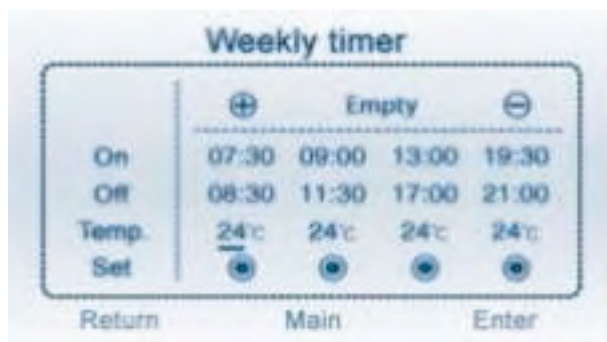
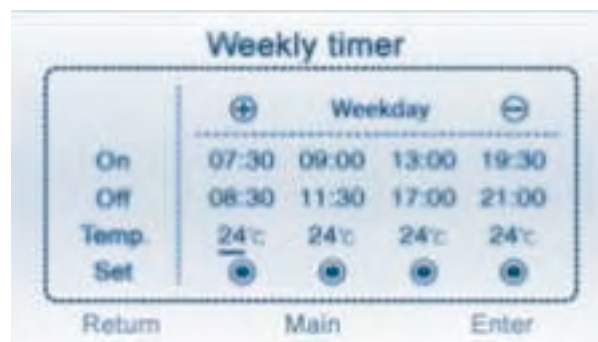
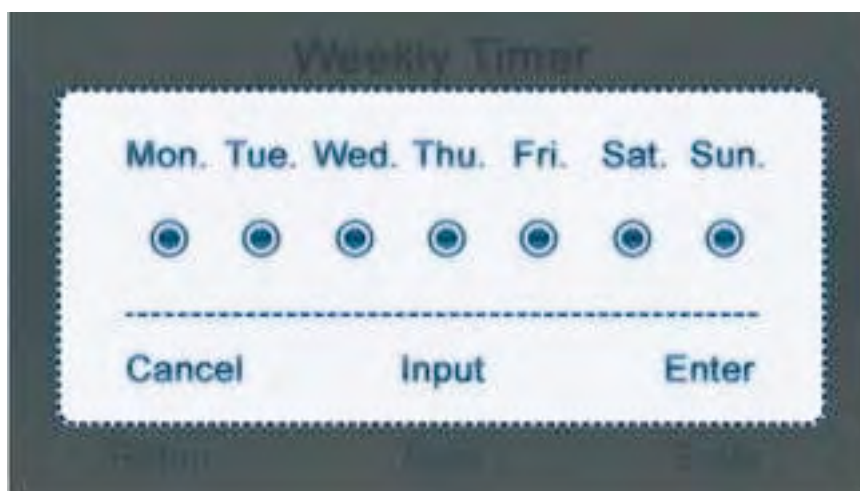

Figure 1
Figure 2
Figure 3
1. Proceed with main interface→Menu→Weekly timer→"Enter" to enter, which is shown in Figure 1; When the cursors is at "⊕", press "Enter" key to add a group of timing information; non-initial setting may be displayed as shown in Figure 2; maximally 7 groups of timing information can be set.
Press the "Enter" key, a window as shown in Figure 3 will pop out. The location where the cursor stays is flickering,  indicates unselected and  indicates selected ; press the "Input" key to select it so that it changes to  or  ; weekly timer can be set as you wish. After the selection has been done, press the "Enter" key to exit the setting of weekly timer; return to the main interface for weekly timer. If "from Sunday to Saturday" are selected, after pressing "Enter", the timing item should be "Daily"; If "from Monday to Friday" are selected, after pressing "Enter", the timing item should be "Weekday", as shown in Figure 2.